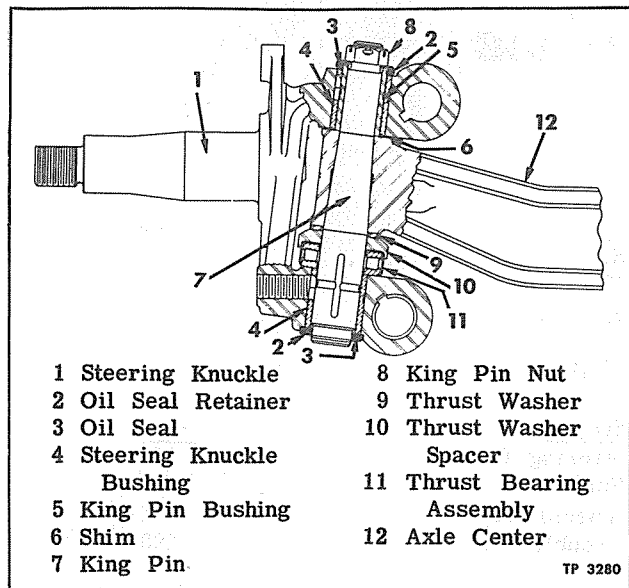

Figure 1—Steering Knuckle
Steering knuckles are provided with large thrust bearings between steering knuckle lower yoke and lower face of front axle I-beam, as shown in figure 1. Since these thrust bearings take vertical thrust loads, up and down movement of steering knuckle on axle center must be kept within proper limits to prevent pounding and consequent breakage of thrust bearings. Use of shims for correcting excessive up and down movement is described later under "Steering Knuckle Installation" in this section.
As illustrated in figure 1, bushings are used at upper and lower ends of steering knuckles.
STEERING KNUCKLE REMOVAL (Fig. 1)
When installing steering knuckle, always check up and down movement of knuckle and install shims at top of I-beam if necessary. Install steering knuckles and king pins in the following manner: Key numbers in text refer to figure 1.
1. Press king pin bushing (5) onto king pin (7), making sure bushing is properly aligned with king pin.
2. With steering knuckle (1) in position on axle center (12), install thrust bearing assembly (11), thrust washer spacer (10), and thrust washer (9), as shown in figure 1.
3. Raise knuckle with jack slightly so that weight of front end will rest on thrust bearing and check clearance between top of I-beam and knuckle yoke. Clearance greater than shown in "Specifications," at end of this section should be corrected by installing a shim (6), of suitable thickness, at top of axle center. Shim thicknesses available are given in "Specifications".